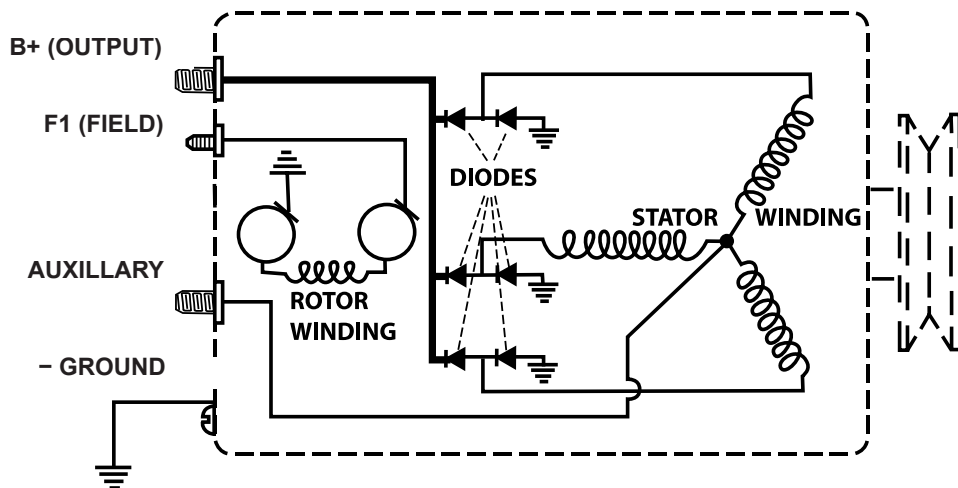

Figure 2.1
- B. A simplified electrical diagram is shown in Figure 2.1 which shows the basic electrical operating points and connections.